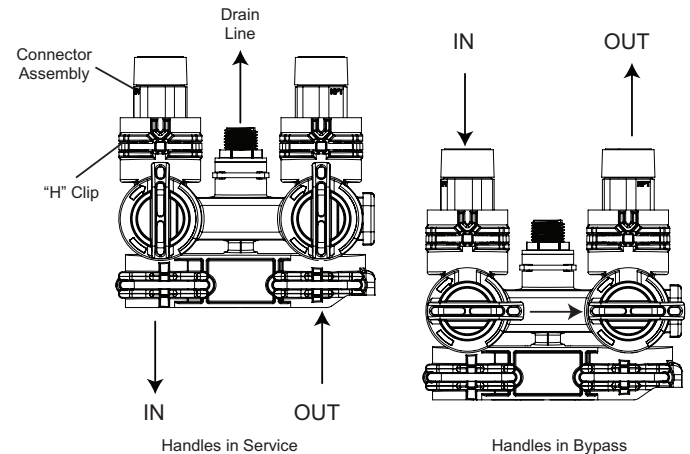

Figure 7 Bypass Operation
**IMPORTANT:** The bypass valve is shipped to you in the bypass position (Figure 7 Bypass Operation). When the valve is in bypass water will not enter the softening tank. The water in the building will not be treated. Figure 7 Bypass Operation, shows the handles in the service position.
Once you have selected your location check the direction of the waterflow in the main pipe. Figure 7 Bypass Operation can be used to plan the new plumbing assembly.